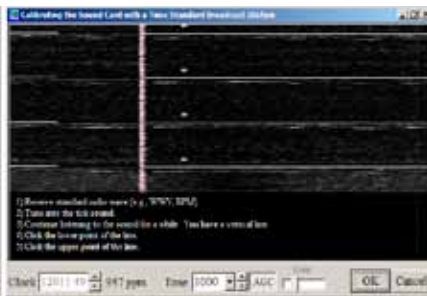

Fig 19B – After calibration notice a perfectly vertical line when tuned to a WWV NIST time station on 5MHz, 10MHz, 15MHz or 20MHz.
19. To confirm this calibration, bring up the calibration window again and observe the WWV station. A perfectly vertical line should appear this time (shown in Fig. 19B).